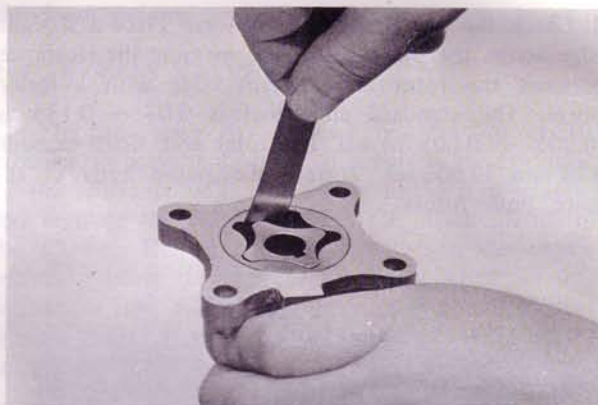

Fig. 2-3 Checking rotor clearance
1. Check the clearance between the lobes of the rotors with a feeler gauge, as shown in Fig. 2-3. The standard clearance is 0.01 ~ 0.09 mm (0.0004 ~ 0.0035 in). If the clearance exceeds 0.15 mm (0.006 in), replace both inner rotor and outer rotor.